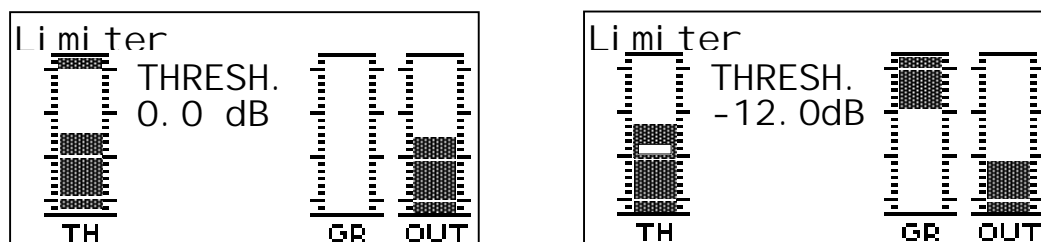

Fig. 23. Limiter display (left) and Limiter Threshold while editing (right)
-) GR (Gain Reduction): This bar shows when the limiter is active (the threshold value is being exceeded by the input level). The gain reduction level will display as an inverted VU bar (see Fig. 23, right).